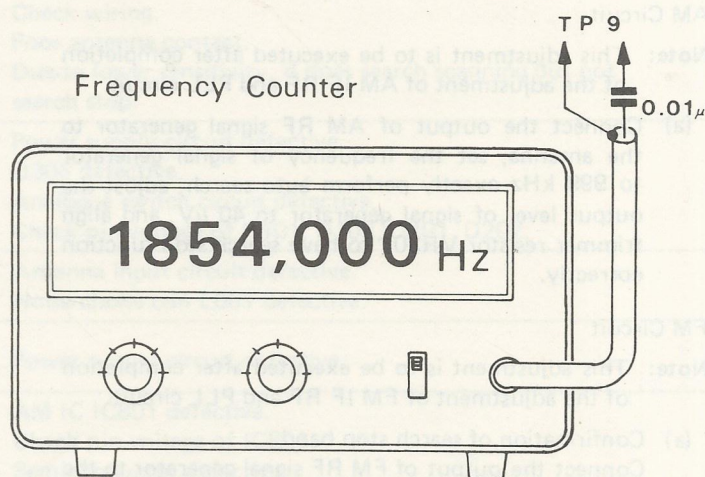

Fig. 11
- (b) Align trimmer capacitor TC301 to have the indication of frequency counter be of 1854000 Hz. Refer to Fig. 11.